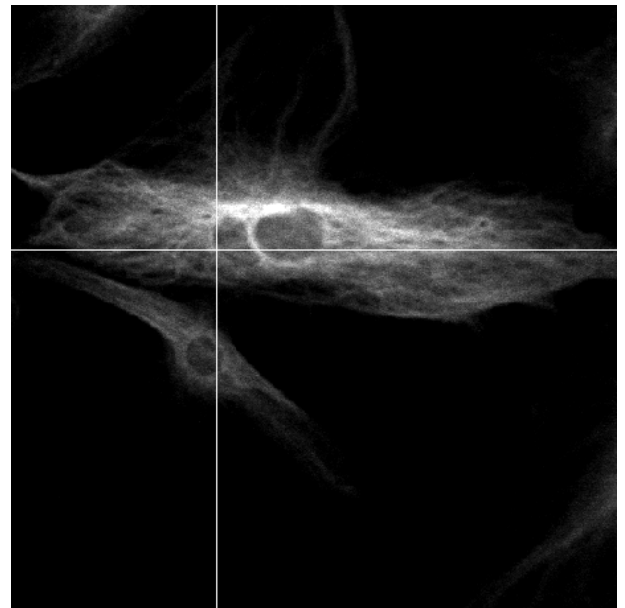

Fig. 144 Manual stage positioning with the ConfoCor 2
- ☞ If you want to stay at the optical axis, you must position your measurement positions at the position of the laser beam. With no offset of the scan area defined, this will be the center of the image in the ConfoCor 3 (Fig. 144), and an offset position in the ConfoCor 2 (see Fig. 144). Note that the offset coordinates will only be valid if the same zoom and pixel size.